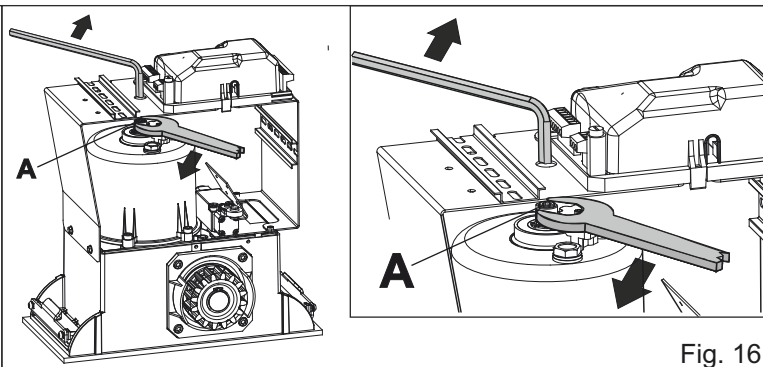

Fig. 16
7.2. To adjust the clutch act on the dowel «A» (Fig. 16) as follows: